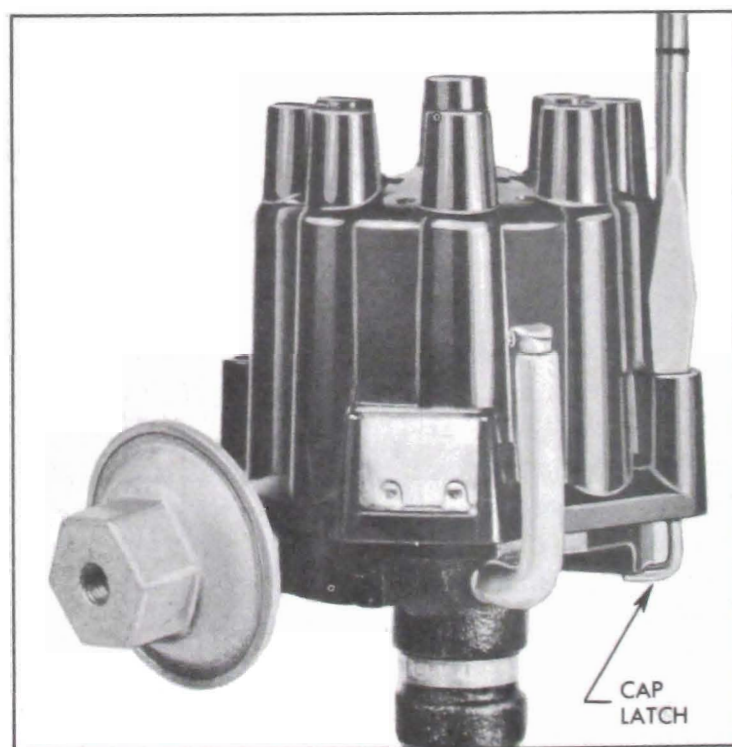

Figure 10-39—Removing Distributor Cap
1. Remove distributor cap by inserting a screwdriver in upper slotted end of cap retainers, press down and turn 90° in either direction. See figure 10-39. Push distributor cap aside and remove rotor. Disconnect the condenser and primary leads from their terminal by loosening the retaining screw. Remove